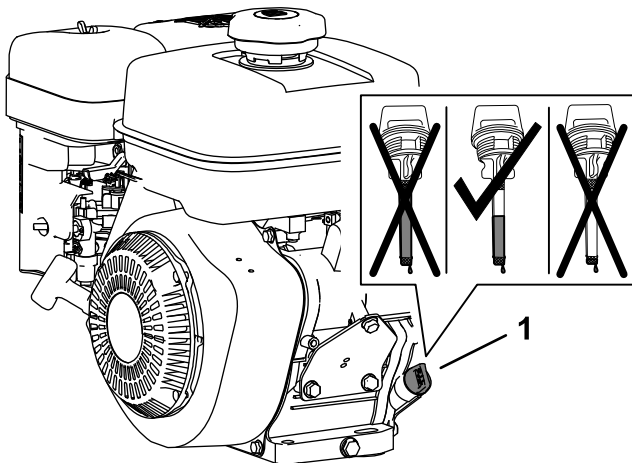

Figure 16
1. Remove the dipstick from the filler neck of the engine and wipe clean the dipstick with a rag (Figure 16).
2. Slowly pour 0.6 L (20 fl oz) of the specified oil into the crank case of the engine through the filler neck (Figure 16).
Note: The engine oil level must cover between the hatch marked areas on the dipstick (Figure 16).